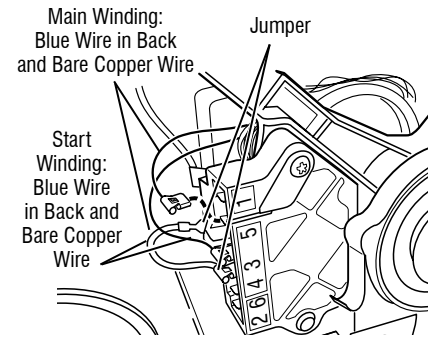

Figure 10 - Main and start winding measure points
- Remove the bare copper wire terminal from pin 5 of black drive motor switch. See figure 10.
- Using figure 10 and the strip circuit, check for the resistance values of the motor's Main and Start winding coils as shown in the following table.
- On gas dryer only, check the belt switch by unplugging the connector and measuring the resistance between pins 1 and 3 of the belt switch connector while pushing up the pulley (see figure 10).